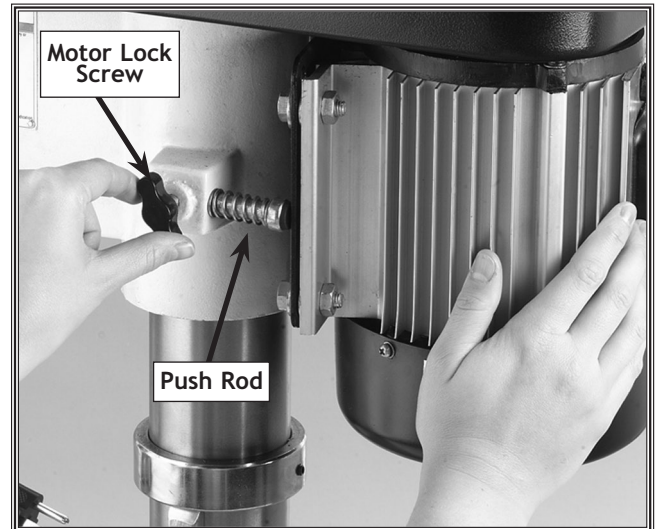

Figure 22. Motor lock screw.
3. Loosen the motor lock screw at the side of the headstock, as shown in **Figure 22**.